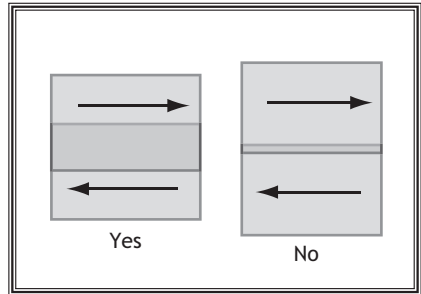

Figure 9. Overlap technique.
12. Overlap each stroke by 50%. This will ensure even coverage, as shown in **Figure 9**. Overlapping less than 50%, as shown in the figure to the right, may lead to missed spots or streaky results.